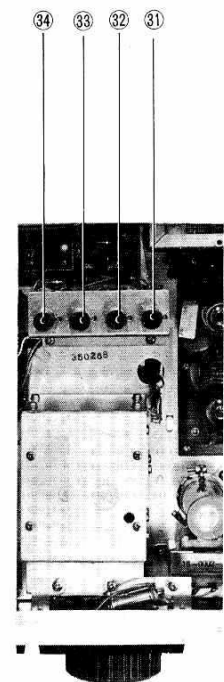

Fig. 7 TS-511S Internal Controls
**DELAY (31 on Fig. 7)**
**ANTI-VOX (32 on Fig. 7)**
**VOX SENSITIVITY (33 on Fig. 7)**
**MICROPHONE GAIN (34 on Fig. 7)**